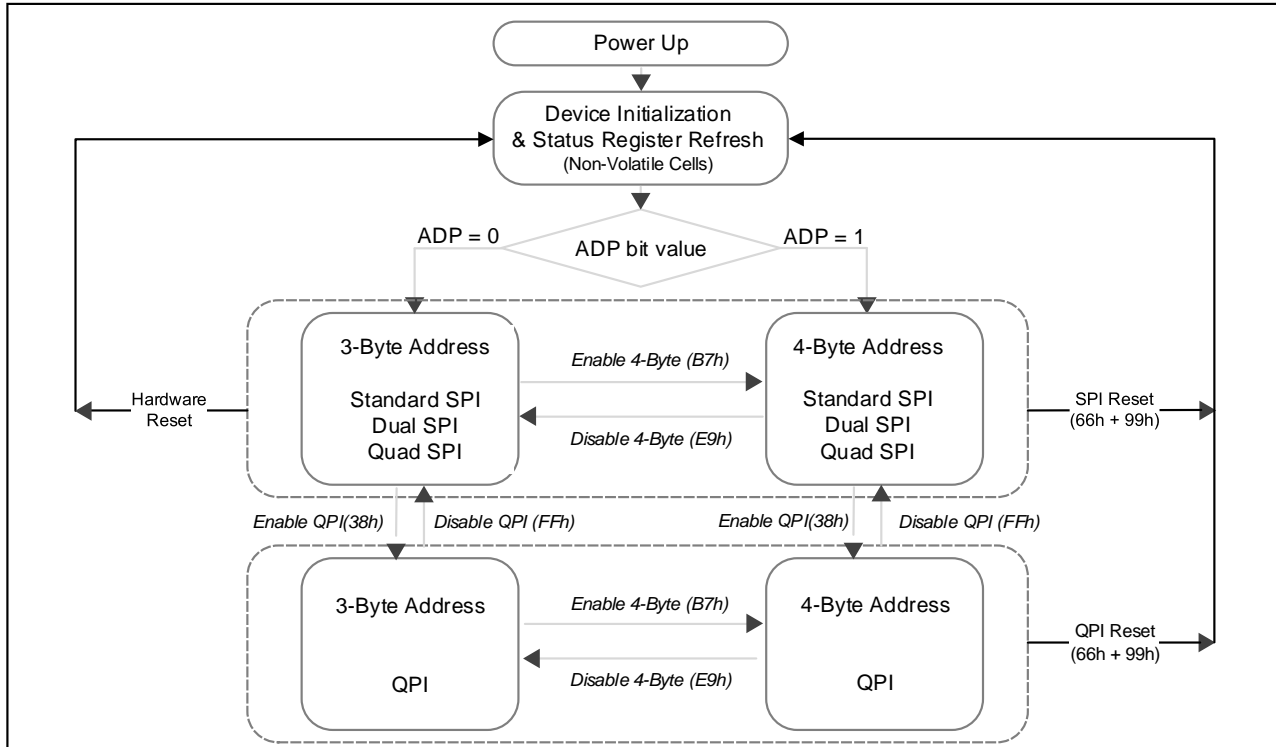

Figure 3. XM25QH256C Serial Flash Memory Operation Diagram
The XM25QH256C supports Quad Peripheral Interface (QPI) operations only when the device is switched from Standard/Dual/Quad SPI mode to QPI mode using the “Enter QPI (38h)” instruction. The typical SPI protocol requires that the byte-long instruction code being shifted into the device only via DI pin in eight serial clocks. The QPI mode utilizes all four IO pins to input the instruction code, thus only two serial clocks are required. This can significantly reduce the SPI instruction overhead and improve system performance in an XIP environment. Standard/Dual/Quad SPI mode and QPI mode are exclusive. Only one mode can be active at any given time. “Enter QPI (38h)” and “Exit QPI (FFh)” instructions are used to switch between these two modes. Upon power-up or after a software reset using “Reset (99h)” instruction, the default state of the device is Standard/Dual/Quad SPI mode. To enable QPI mode, the non-volatile Quad Enable bit (QE) in Status Register-2 is required to be set. When using QPI instructions, the DI and DO pins become bidirectional IO0 and IO1, and the /WP and /HOLD pins become IO2 and IO3 respectively. See Figure 3 for the device operation modes.